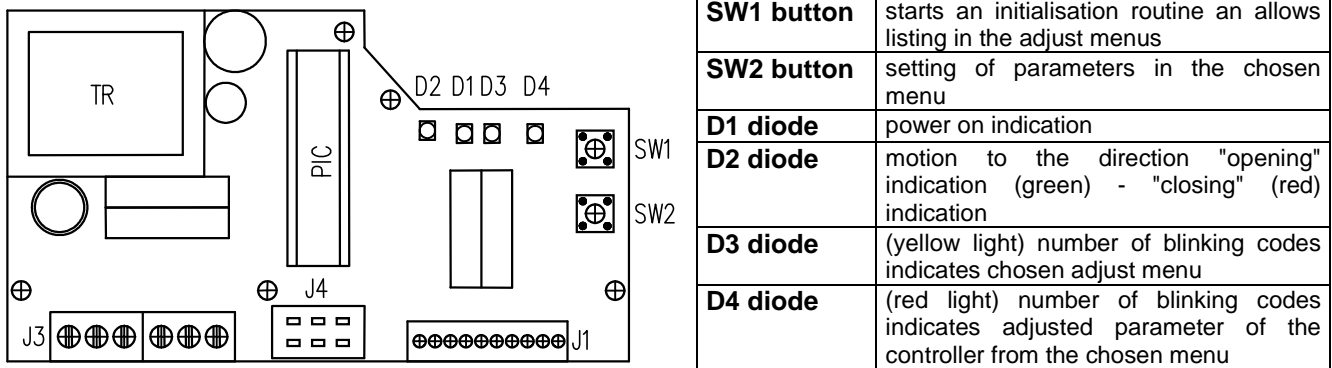

Fig. 8
4.6 Resetting of operation angle and setting of stop end screws (Fig. 8)
The valve operation angle position is defined with the stop end screws which allow to change the position from the position "Z" (closed - 0°) and from the position "O" (open - 60°, 90°, 120°, 160°) by a value of ±15°. For better understanding see Fig. 8 where the output shaft is in the position "Z" for the operation angle of 90°. The stop end screws serve as mechanical limits of the operation angle position at manual control or as end travel points for torque switching-off, else the mechanical gearing could be damaged.
4.7 Adjustment of position controller (Fig. 8)
Laying of adjusters and signalling elements on the board of the REGADA controller is shown on Fig.8: